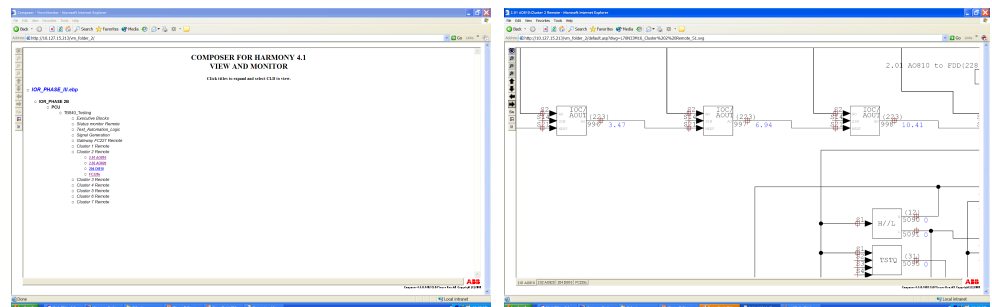

Figure 5. Composer View and Monitor Mode
- **View and Monitor:** Provides the ability to view control configurations with live data from any Windows based web browser application on the network (Figure 5)